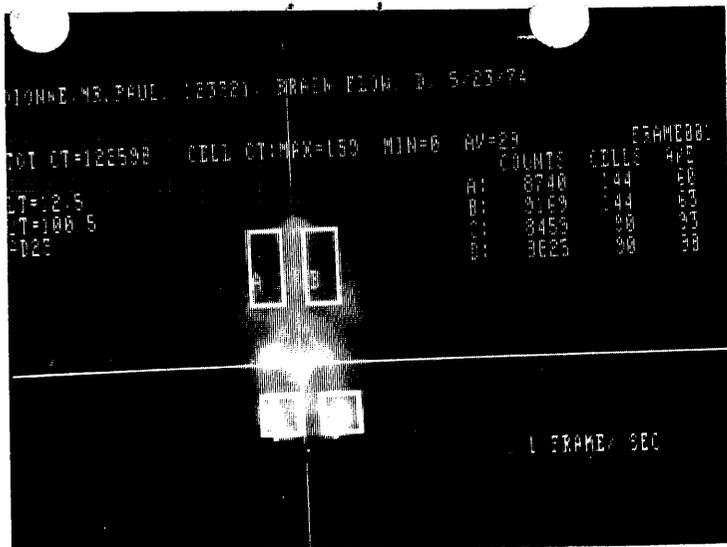

FIGURE 18. ROIs marked over each hemisphere
- 2) display an image of the brain ( $AD_n$ ), smooth the image (S9), and enter regions of interest (RI) or (IR)
- 3) mark regions on either side of the midline (Figure 18)